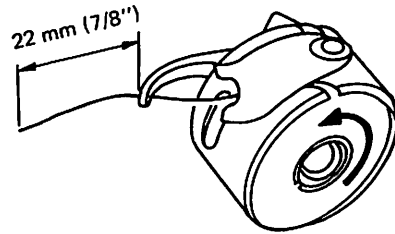

Fig. 23
A. If the bobbin thread extending from the top end of the bobbin case finger is less than 22 mm (7/8"), the machine may fail to form stitches (Fig. 23). Provide a little more distance between the counter knife and the needle plate needle hole guide.